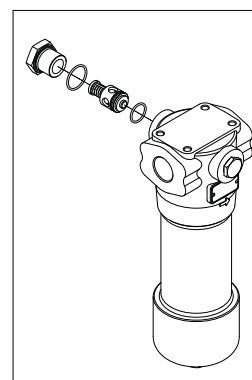

fig. 32
- (Fig. 32) Replace the O-rings of the bypass.